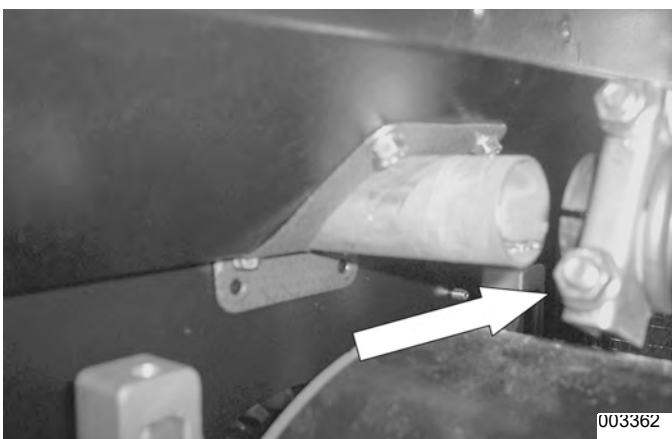

Figure 5-42.
4. **Remove Exhaust Flex Pipe:** See Figure 5-42. Use a 1/2" socket to remove the front and rear muffler clamp. Slide exhaust flex toward engine to completely expose the muffler flange.